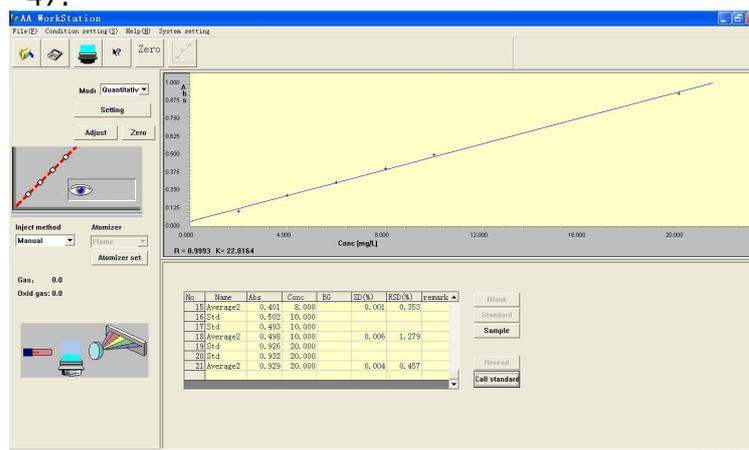
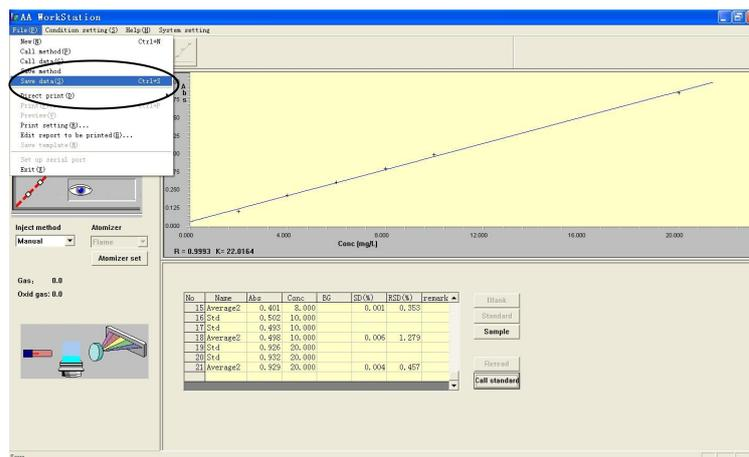
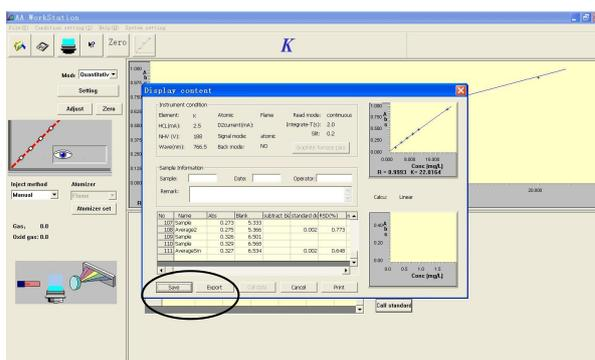

Figure 5-45
Figure 5-46
Figure 5-47
1. After sample testing is completed, press the "Save" button on the toolbar, as shown in Figure 5-45. Alternatively, select "Save data" in the "File" menu, as shown in Figure 5-46. A dialog will appear as shown in Figure 5-47.